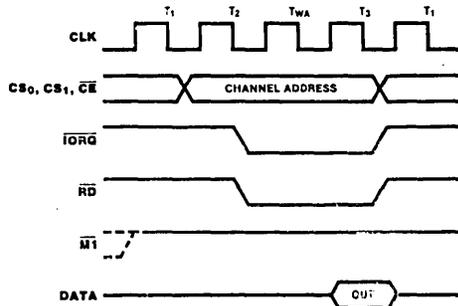

Figure 9. Read Cycle Timing
**Read Cycle Timing.** Figure 9 shows read cycle timing. This cycle reads the contents of a down-counter without disturbing the count. During clock cycle  $T_2$ , the Z-80 CPU initiates a read cycle by driving the following inputs Low:  $\overline{RD}$ ,  $\overline{IORQ}$ , and  $\overline{CE}$ . A 2-bit binary code at inputs  $CS_1$  and  $CS_0$  selects the channel to be read.  $\overline{M1}$  must be High to distinguish this cycle from an interrupt acknowledge. No additional wait states are allowed.